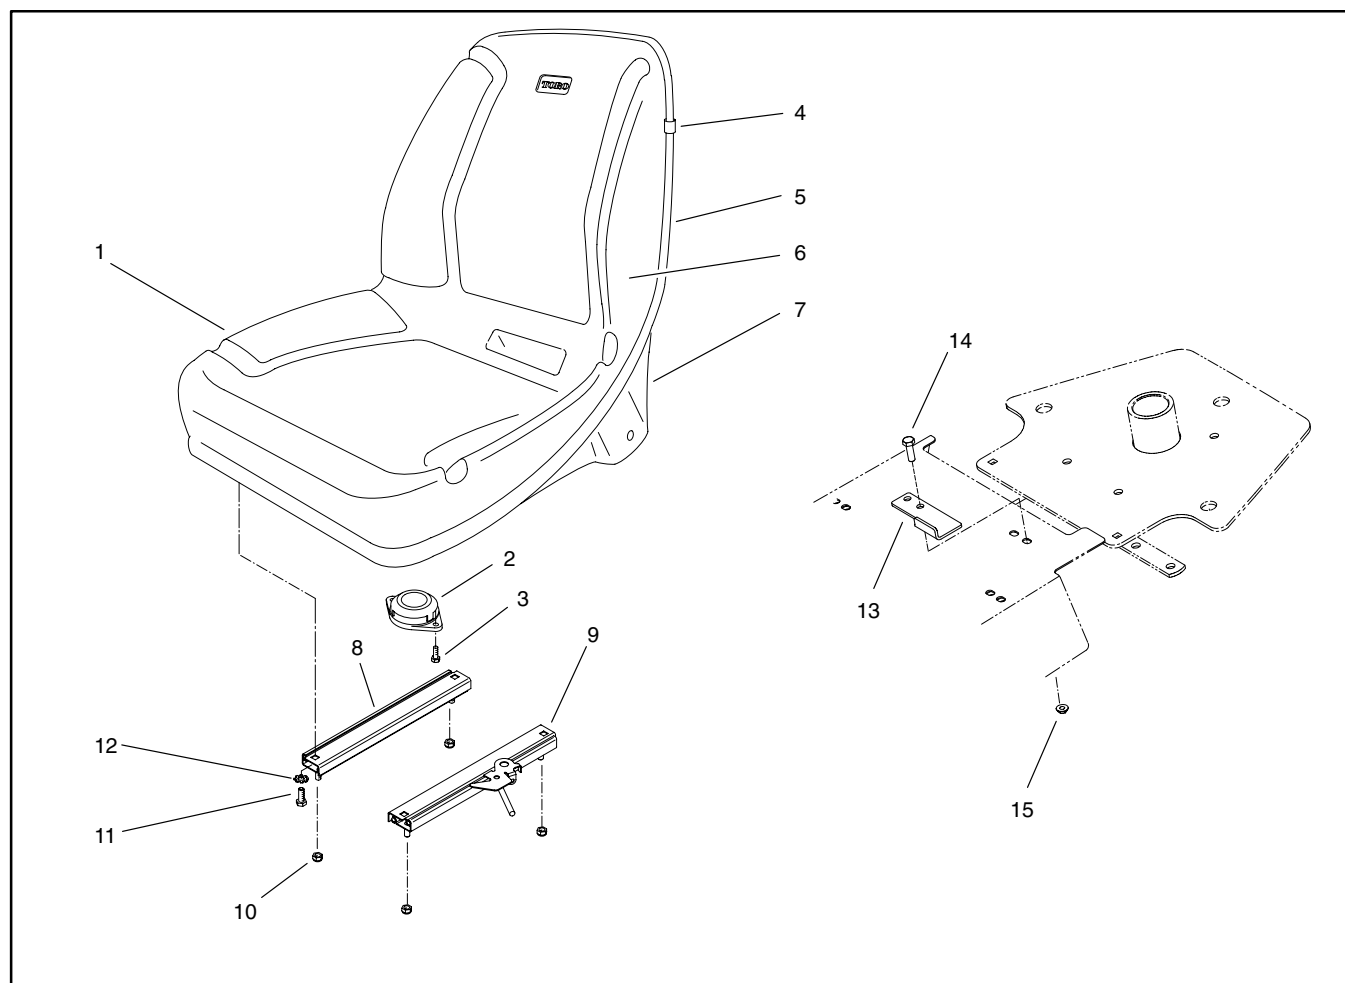

Figure 5
4. Remove seat parts as necessary to make repairs using Figure 5 as a guide.
1. Install any new seat parts using Figure 5 as a guide.